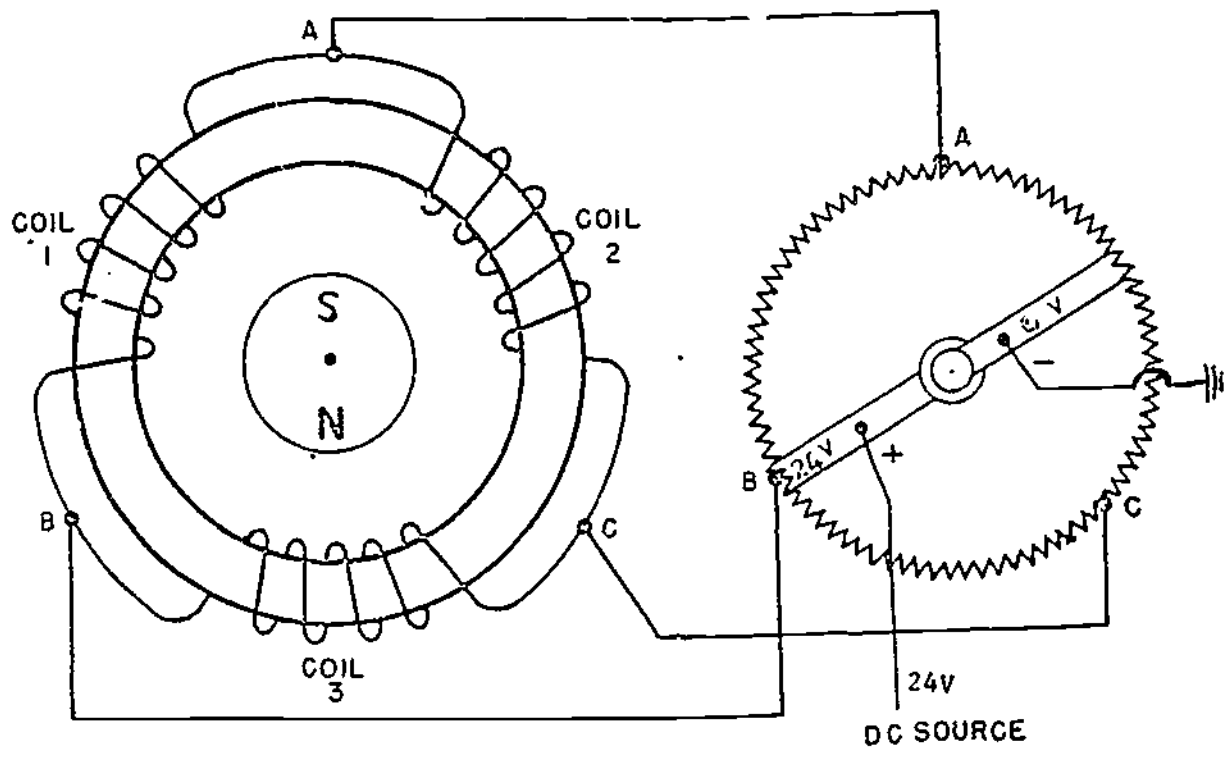

Figure 9.
Using figure 9 below, circle the letter of the correct response to the following statements.
3. Refer to figure 9. After you have determined which coils have current flow through them, place the pointer in the indicator in the proper position. Use the diagram on your response sheet.